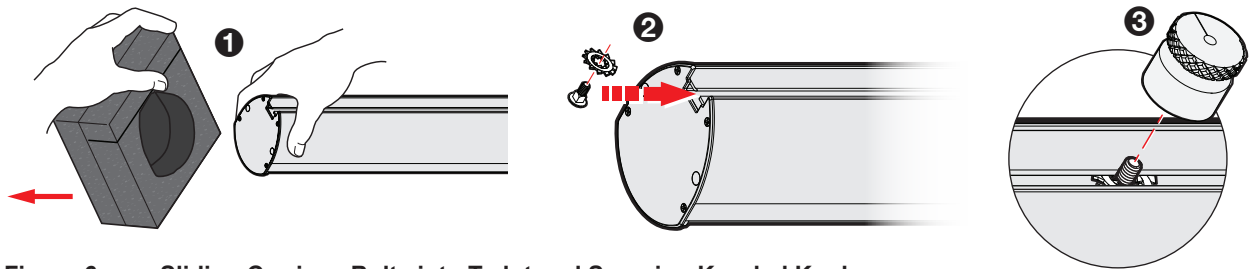

Figure 6. Sliding Carriage Bolts into T-slot and Securing Knurled Knobs
2. Brace the top end of the speaker with your hand as you remove the top foam cap (see figure 6, ①). Slide two included carriage bolts and washers into the T-slot (②), and place the foam cap back on the speaker.